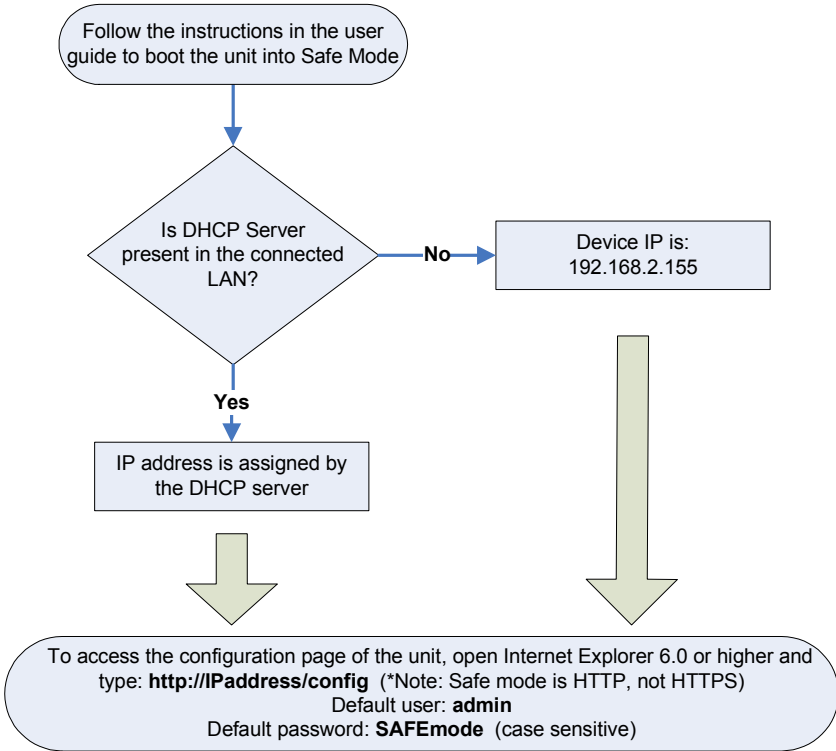

Figure 32 Safe mode procedure
3. You need to know the IP address of the IP Control. The IP address depends on whether there is a DHCP server on the network. If there is, the DHCP server assigns an IP address to the IP Control. If there is no DHCP server, the unit boots with the static IP address 192.168.2.155. See Figure 32 for an overview of this procedure.